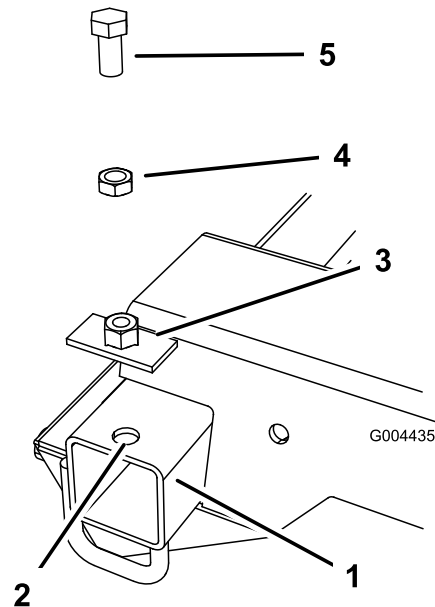

Figure 3
1. Line up a weld plate with the end of the frame (Figure 3), and use a transfer punch to mark the center hole of the plate.
2. Remove the plate from the frame, and drill a pilot hole in the top of the boxed frame tube at the spot marked by the punch (Figure 3). Enlarge the diameter of the hole to between 1/2 and 5/8 inch.